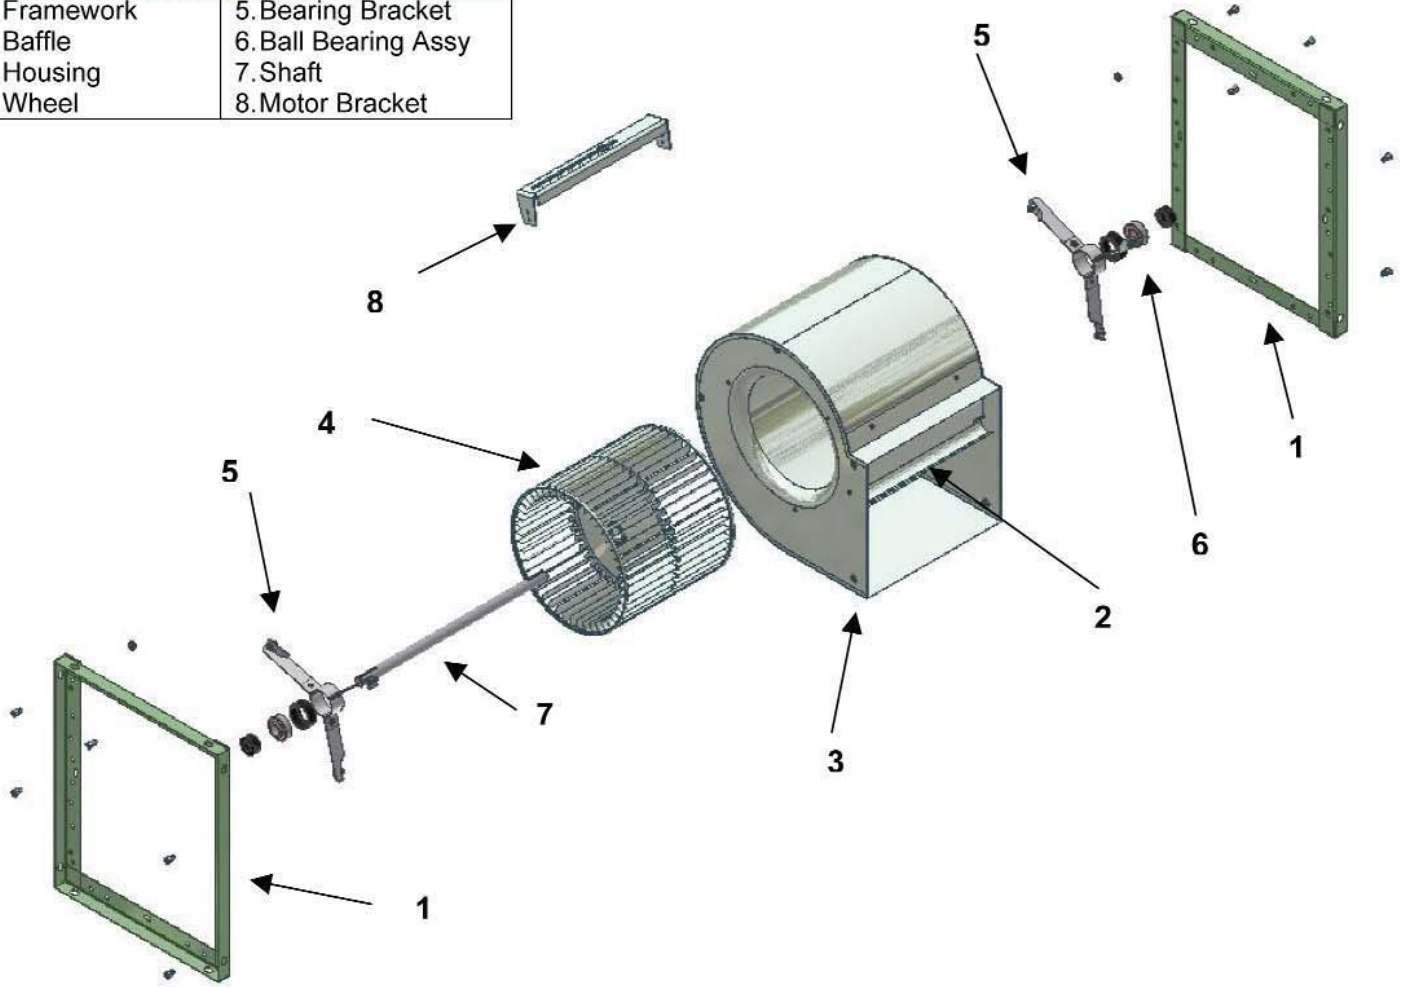

FIGURE 7: EXPLODED VIEW (800 series)
9. Should further service to the blower be necessary, refer to the exploded view illustration (see Figure 7).